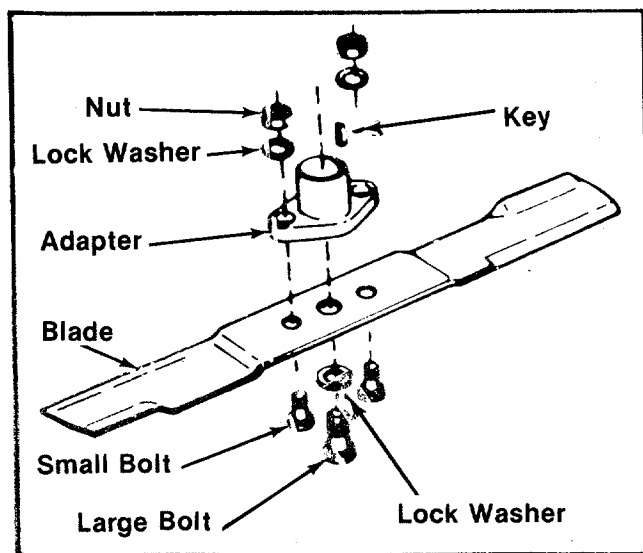

FIGURE 18.
1. Remove the large bolt and lock washer which holds the blade and adapter to the blade spindle. See figure 18.